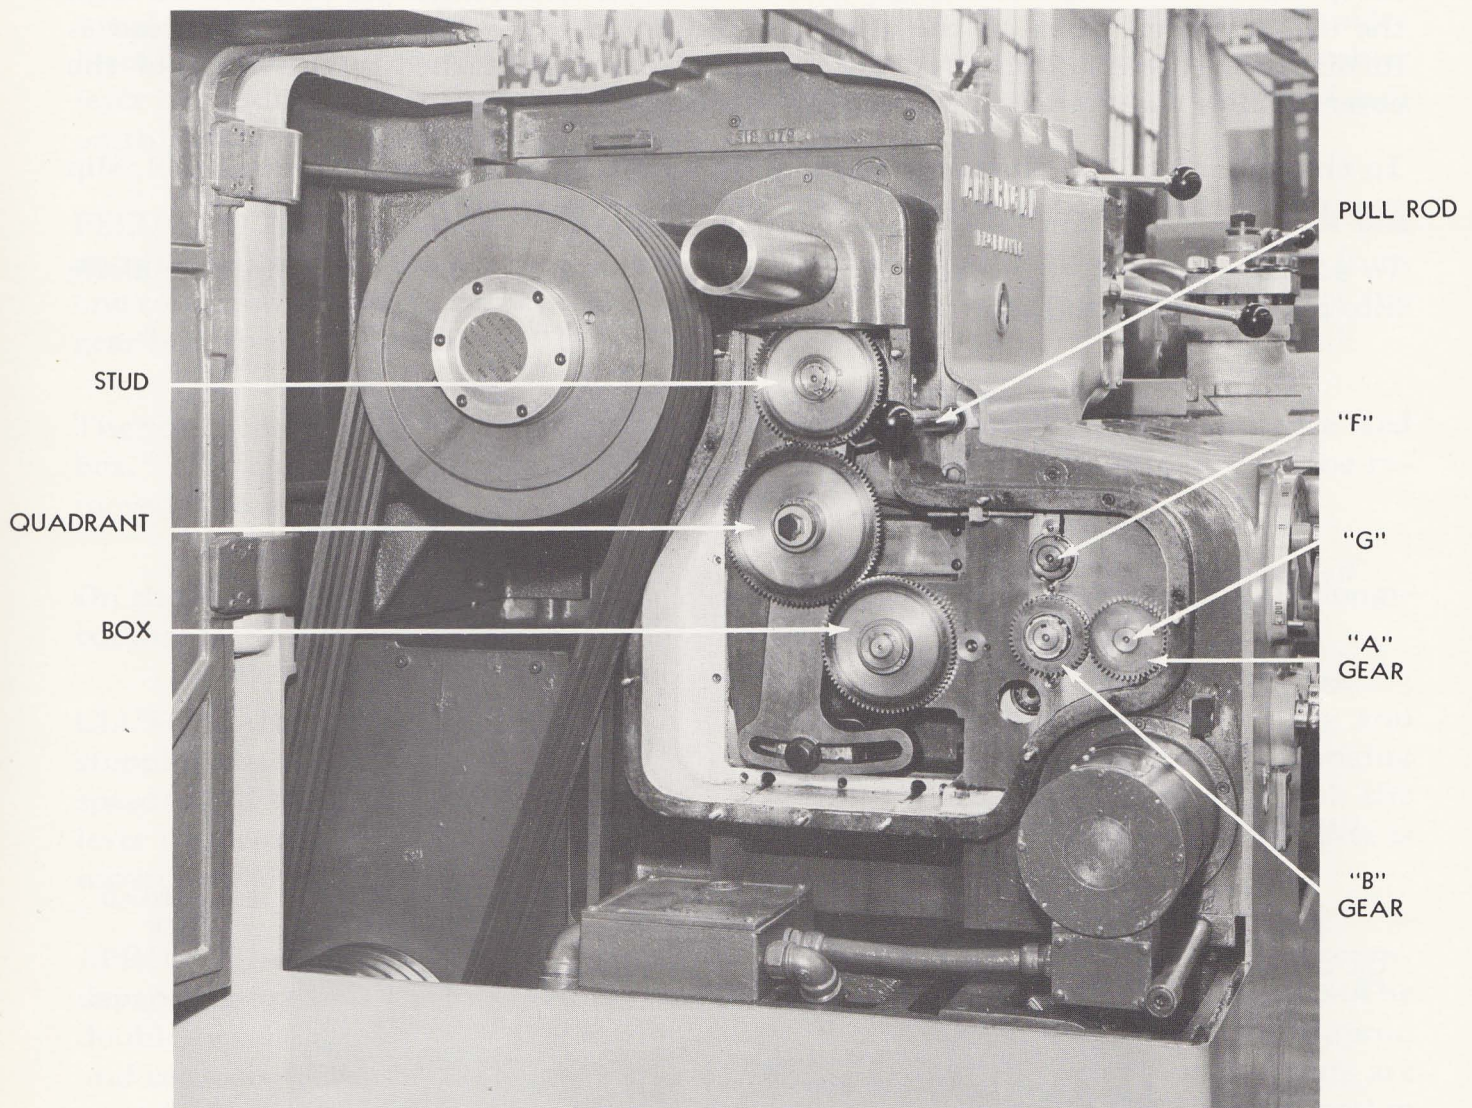

Figure No. 7—Head-End, showing Swinging Cover open and oil tight aluminum cover removed.
**CHANGE GEARS AND GEAR BOX**—On all English lathes a standard English range is furnished and every change on the index plate on the front of the box is obtained without changing any of the head end gears. The two outside gears, "A" and "B", Figure No. 7, should never be removed on English lathes. In addition to the standard range, other ranges may be secured by the addition of suitable gearing, namely:
To obtain these additional ranges, first arrange the change gears to correspond to the stud, quadrant, and box gears shown on the plate which is furnished for that particular range and which is attached to the inside of the swinging cover. Second, make sure that for all metric leads and feeds the "A" gear, Figure No. 7, is on the cone shaft "F" and the small conversion lever on the opposite side of the box, is at position No. 1: and make sure that for transposed English leads and feeds the "A" gear is on the tumbler shaft "G" and the small conversion lever on the opposite side of the box is at position No. 2.